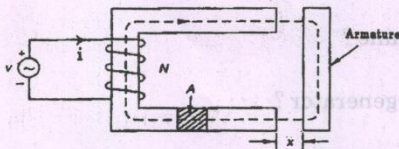

Fig. 13 (a)
- b) Draw and explain the phasor diagram of transformer when it is operating under load. (13)
13. a) The electromagnetic relay shown in Fig. 13 (a) is excited from a voltage source of  $v = \sqrt{2} V \sin \omega t$ . Assuming the reluctance of the magnetic circuit to be constant, find the expression for the average force on the armature, when the armature is held fixed at distance  $x$ . (13)